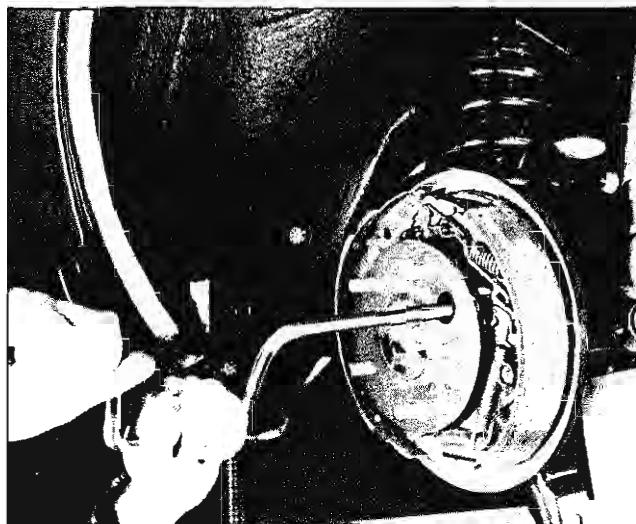

Fig. 4-5 Removing Nuts from Axle Shaft Bearing Retainer
3. Remove four nuts securing axle bearing retainer to brake backing plate (Fig. 4-5). Nuts are accessible through hole in axle shaft flange.
2. Remove four nuts securing axle bearing retainer to brake backing plate (Fig. 4-5). Nuts are accessible through hole in axle shaft flange.